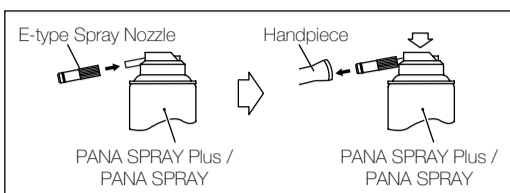

Fig. 5
■ PANA SPRAY Plus / PANA SPRAY (Fig. 5)
- ① Mount the E-type spray nozzle into the spray port.
- ② Shake the can 3-4 times to well mix lubricant and propellant.
- ③ Insert the E-type spray nozzle in the rear of the handpiece and spray for approximately 2-3 seconds until the oil comes out of the handpiece head.